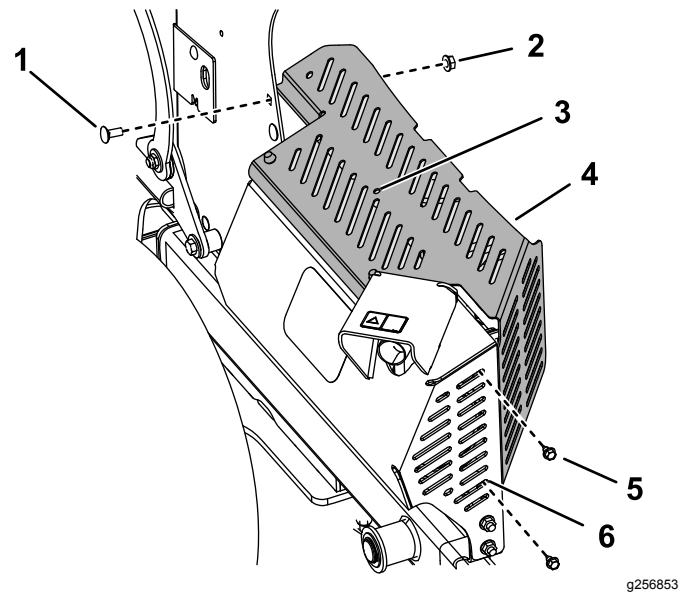

Figure 7
4. **Loosely** install the heat shield over the muffler guard, with the tabs inside the muffler guard and to the inside of the console tower, using the 2 thread-forming bolts (1/4 x 1/2 inch) and the carriage bolt and nut you removed previously (Figure 7).
5. Thread-forming bolt—1/4 x 1/2 inch (2)
- Using the center hole in the heat shield as a template, drill a hole (7/32 inch) into the muffler guard (Figure 7).